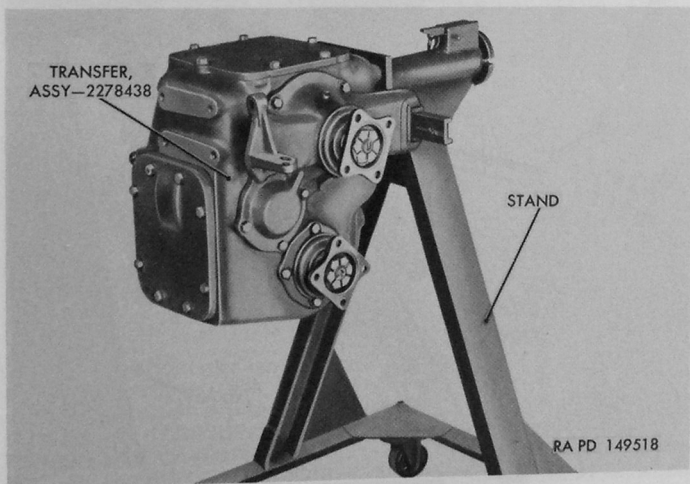

Figure 50. Transfer assembly mounted in repair stand.
*b. Tools and Equipment.*—A suitable repair stand (fig. 50) should be available to support transfer assembly while various component parts and subassemblies are being removed. A suitable press is required to remove bearing from shafts. The required special tools are listed and illustrated with other special tools in chapter 2. Clean trays should be available to receive parts as they are removed during disassembly.